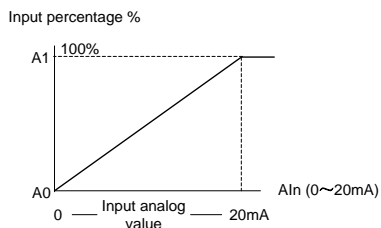

Fig.6-20 Corresponding percentage of input analog value (current)
- ◆ When current analog value input is selected, please refer to Fig.6-20.